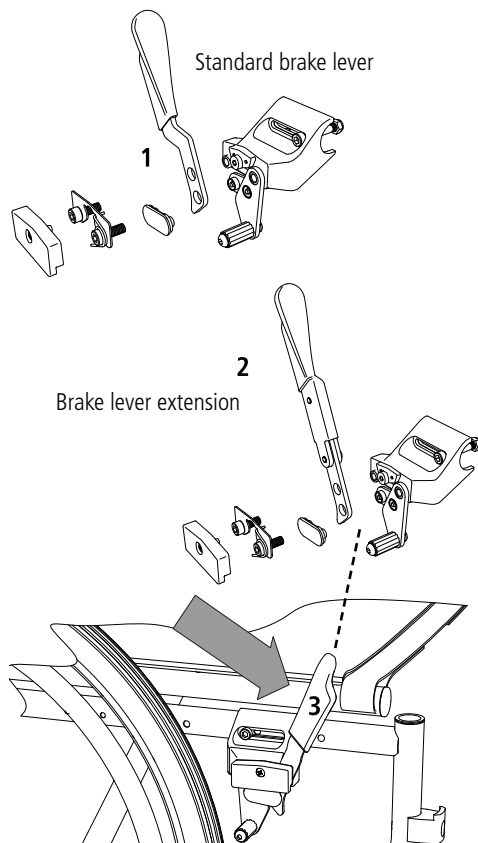

fig.51
The brake lever extension is used to make it easier to transfer force to the brake. (Fig. 51)
1. Remove the standard brake lever completely, as shown in the diagram. (1, Fig. 51).
2. Attach the brake lever extension to the chair (2, Fig. 51) in the reverse order.